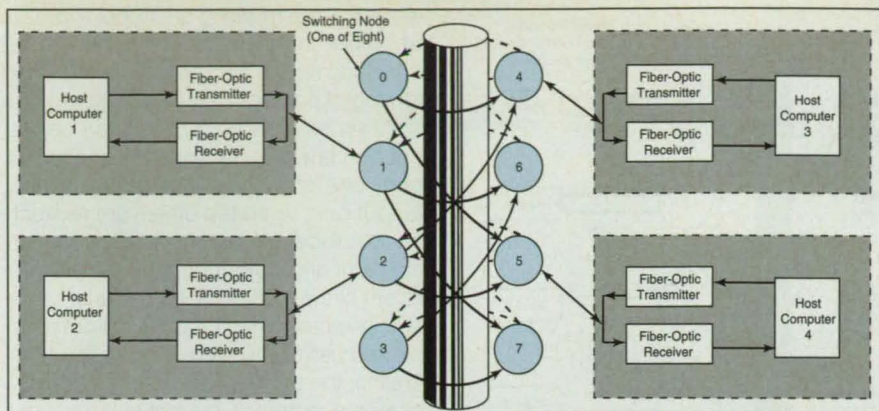

Figure 1. This **Four-Ring Shuffle Exchange Network** would contain eight switching nodes, four of which are used as input/output nodes.
The network would be a multiple-ring cyclic shuffle exchange network (see Figure 1), which would ensure that traffic reaches its destination with a minimum number of hops. Switching nodes within the network would make routing decisions to alleviate congestion by deflecting interfering packets to alternative layers in the shuffle exchange network. This scheme uses permutation engine (PE) switching
Figure 1. **Each Packet Is Routed Up or Down** in each column of this 5-input/5-output permutation engine. The routing algorithm ensures that each packet arrives at its designated output port without blocking any other packet that does not contend for the same output port.